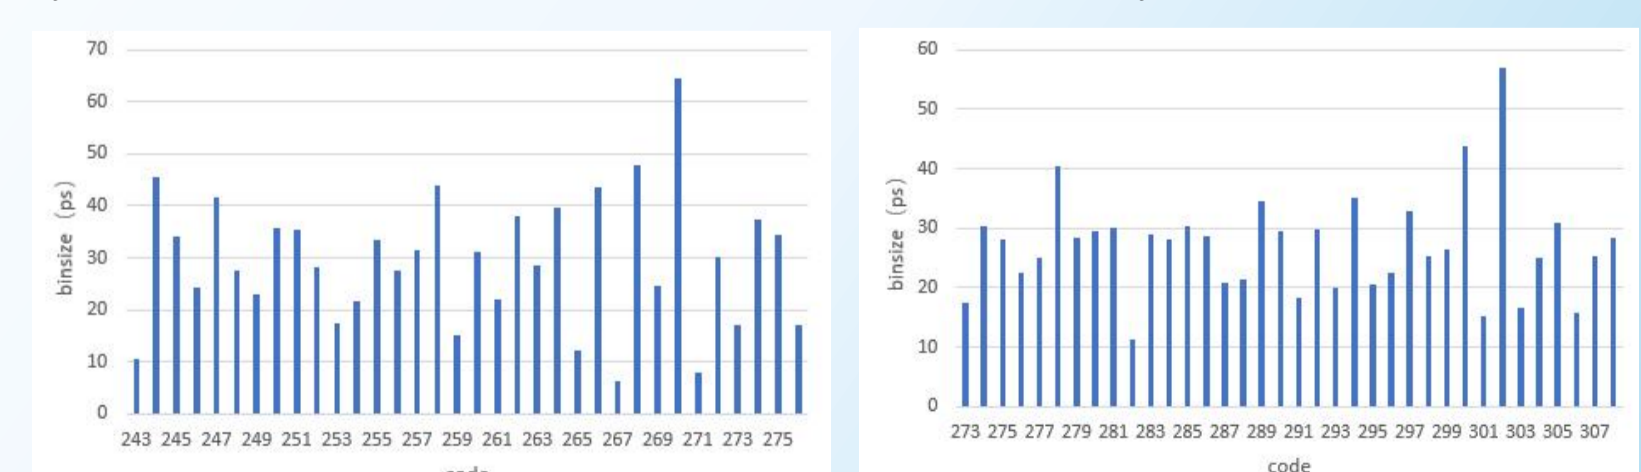

Fig. 6. Bin size vs. code for Channel 1 and Channel 2 of LATIC1
- ❖ Channel 1 has an average LSB of 29.8 ps, and Channel 2 has 27.8 ps. The difference between the maximum and minimum bin-size is 60 ps for Channel 1 and 46 ps for Channel 2, as shown in Fig. 6.